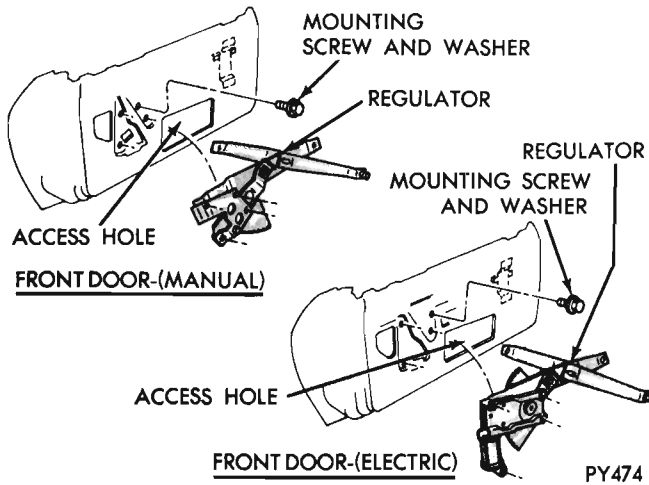

Fig. 6 - Front Door Regulator
- (1) Install support and retainer assembly thru major access hole in door.
- (2) Position to attaching holes and snug secure with screw and washer.
**FRONT DOOR REGULATOR (Fig. 6)**
- (1) Place operating lever arms in desired position for installation.
- (2) Install assembly thru major access hole in door, insert idler arm roller in pivot bracket, position mounting plate or electric motor bracket to attaching holes in door inside panel.
- (3) Secure with screw and washer to manual window regulator or electric window regulator.